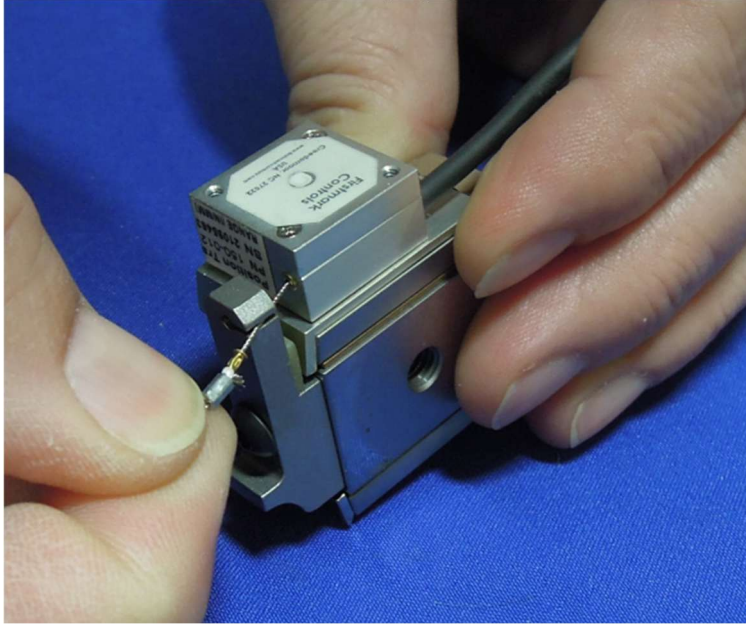
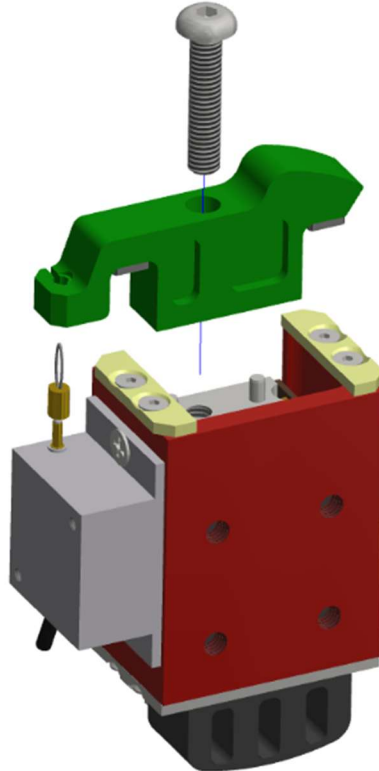

Figure 9-22. Remove wire from Knee Rotation Stop Pot (474-5404)
Figure 9-23. Remove Knee Rotation Stop from the Left Knee Slider Assembly
- 9.2.15 On the left side of the knee assembly, remove the potentiometer wire from the slot on the Knee Rotation Stop Pot (474-5404) so that the looped end will return back against the pot housing (Figure 9-22). Remove the Knee Rotation Stop Pot (474-5404) from the Left Knee Slider Upper Assembly (474-5421) by removing one M4 X 0.7 X 14 LG. BHCS (Figure 9-23).